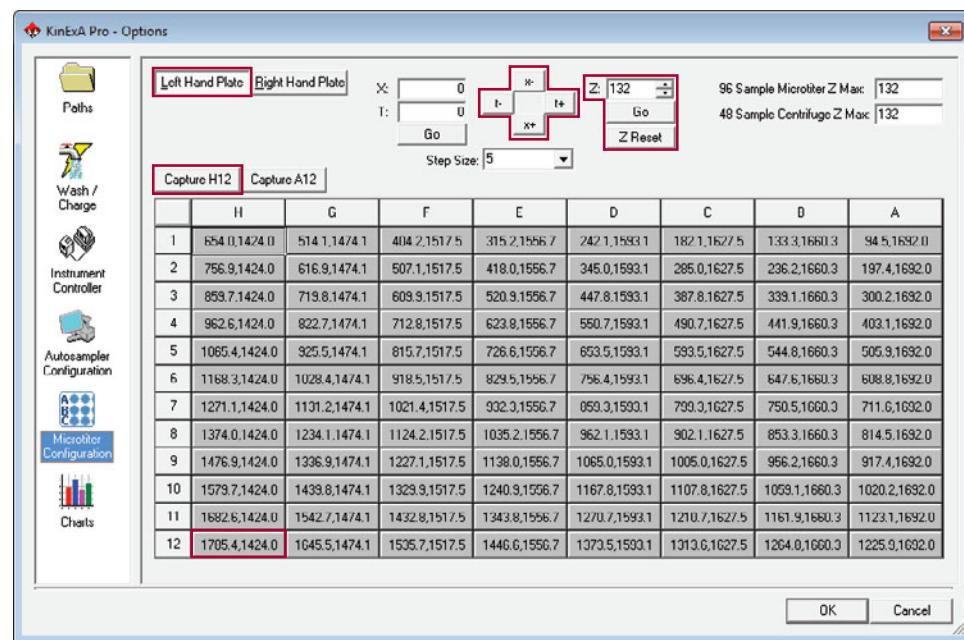

Figure 4. Microtiter configuration screen.
- Select **Microtiter Configuration** below the Autosampler configuration option. Once microtiter configuration is selected, the left hand plate calibration screen will appear (*Figure 4*).
- Drive the sipper tube to position H12 by selecting the gray button in column H, row 12. (*Figure 4*) Drive the sipper tube down by entering **132** in the **Z parameter** and select **Go**.
- 1) Adjust the right arc or left arc by selecting the **t-** button or **t+** button (**Figure 4**).
- 2) Adjust the forward or backward movement of the sipper tube by selecting the **x+** button or **x-** button (**Figure 4**).
- Once the sipper tube is aligned in the H12 position, select **Capture H12** (**Figure 4**).
Note: If the Z parameter is not cleared, the sipper tube will drop to this setting every time a new position is selected. To clear this setting, select the **Z Reset** button (**Figure 4**).
- Next move the sipper tube to the H1 position by selecting the gray button in column H, row 1. Drive the sipper tube down by entering the appropriate **Z parameter** and select **Go** (**Figure 4**).